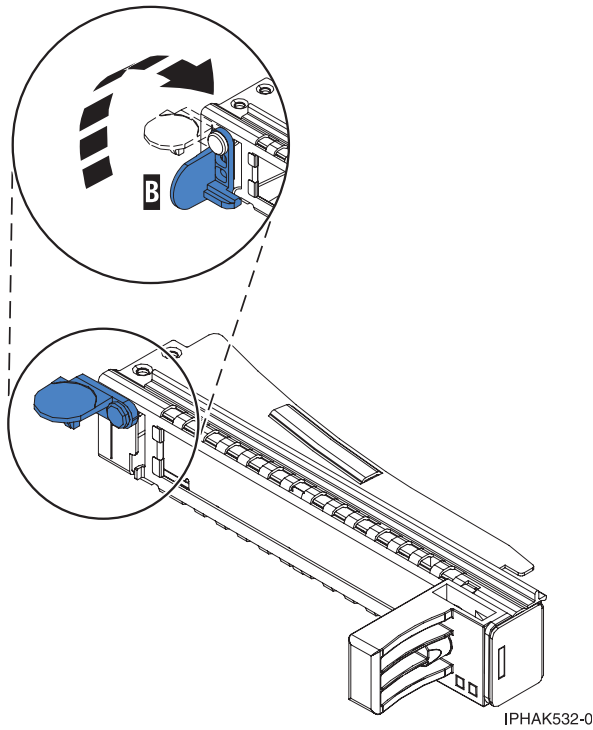

Figure 22. Opening the tailstock clamp
- a. To unlock the filler tailstock, rotate the latch (**B**) at the tailstock end of the cassette as shown in Figure 22 on page 21.